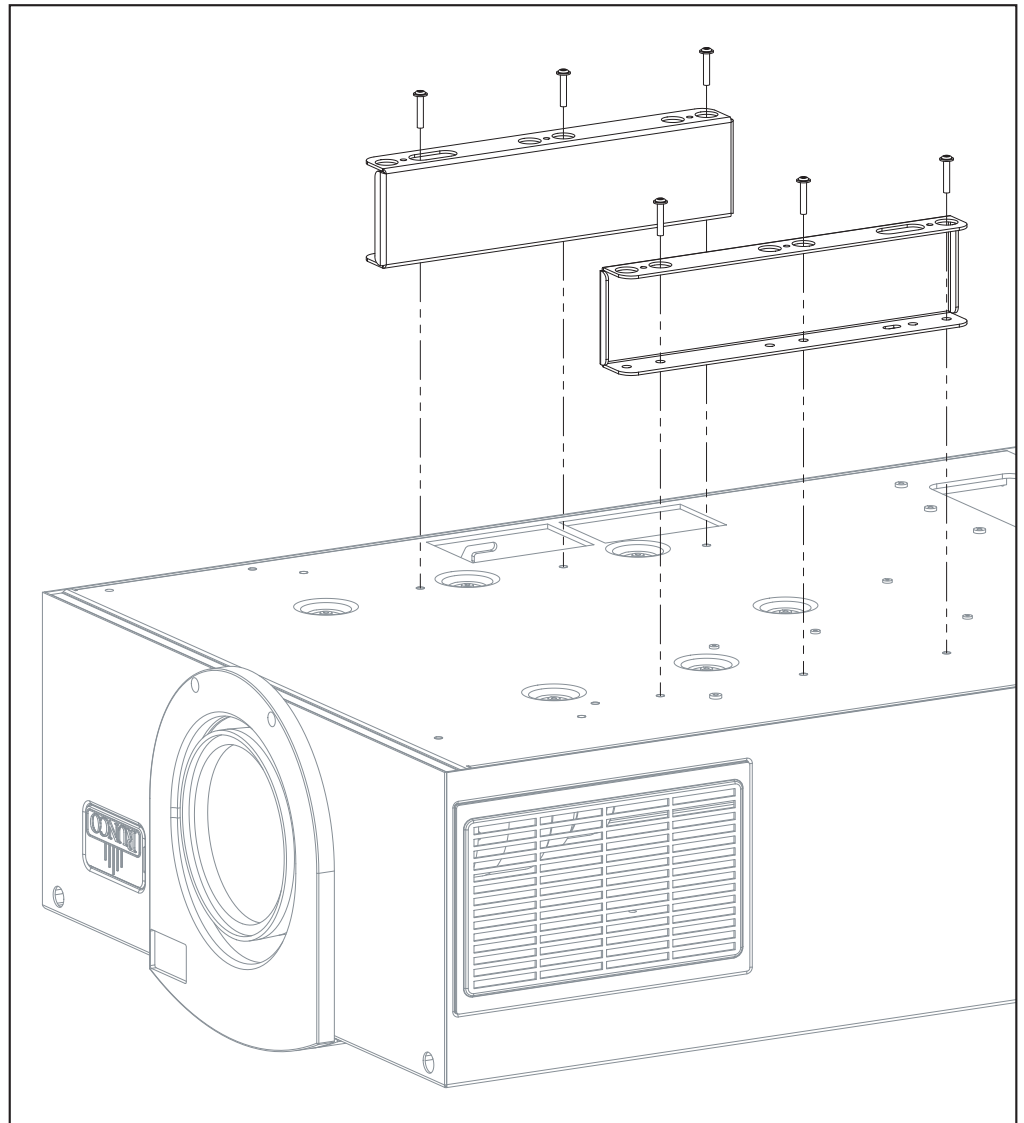

Figure 3-7. VX-22i with Ceiling Mount Adapters/Projector Stands
Using six (6) each of the supplied, M6 x 12mm Pan-Head Phillips screws (item #2), attach the AutoScope Ceiling Mount Adapters/Projector Stands (items #3 and #4) to the projector as shown in Figure 3-7.